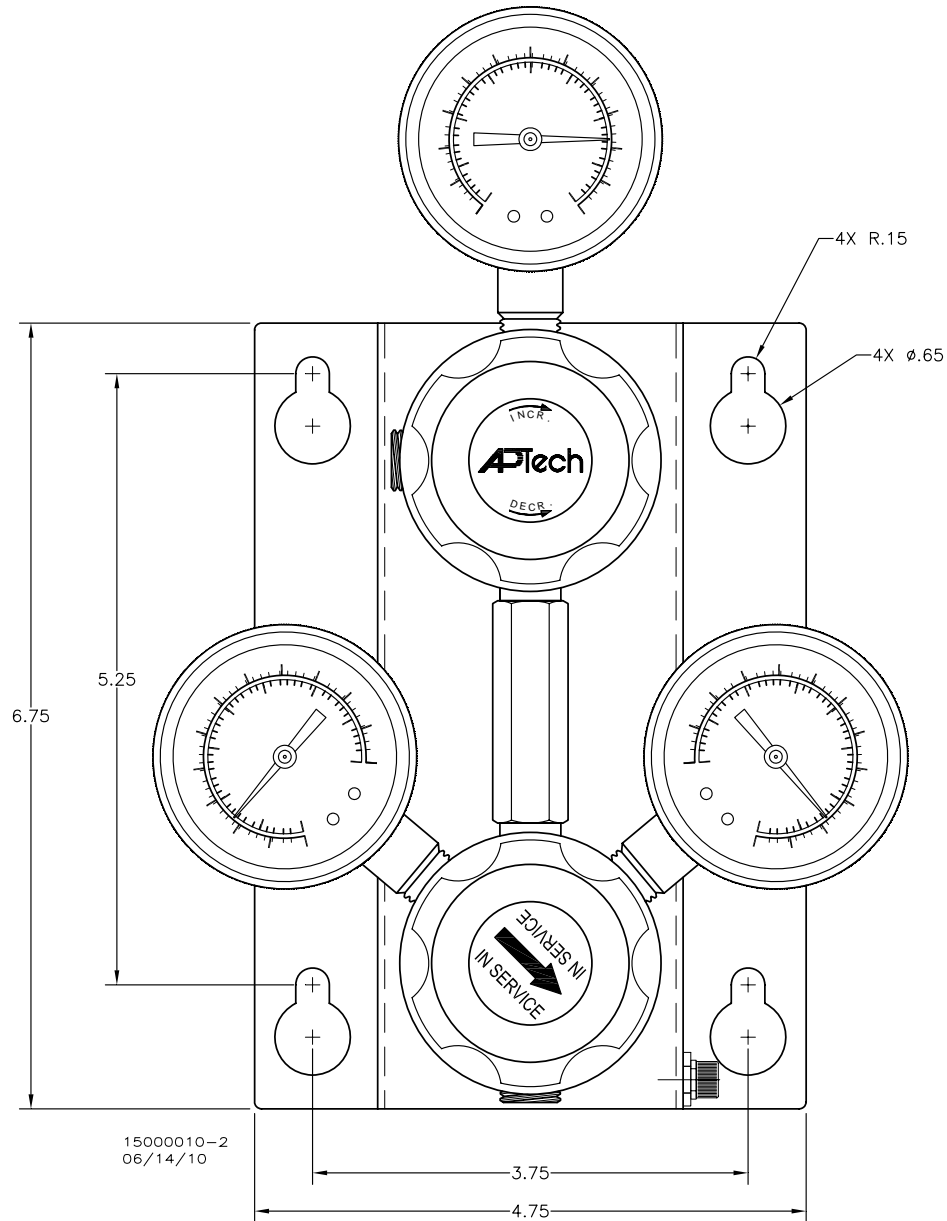

Figure 2. AK M80/86 Crossover Manifold Mounting Hole Pattern
- Install anchors in the wall using the pattern shown on Figure 2 or hold the AK M80/86 manifold against a wall and mark the location of the mounting holes. Mount the AK M80/86 manifold directly to the wall and secure with 1/4 inch diameter screws.